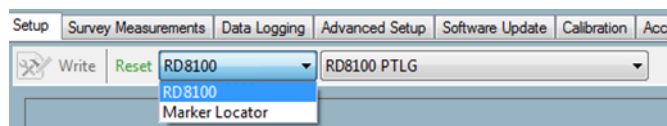

Figure 5.2: Locator Range menu
- **Locator Range Menu:** Selects different ranges of locator products (figure 5.2) – available if no unit is connected